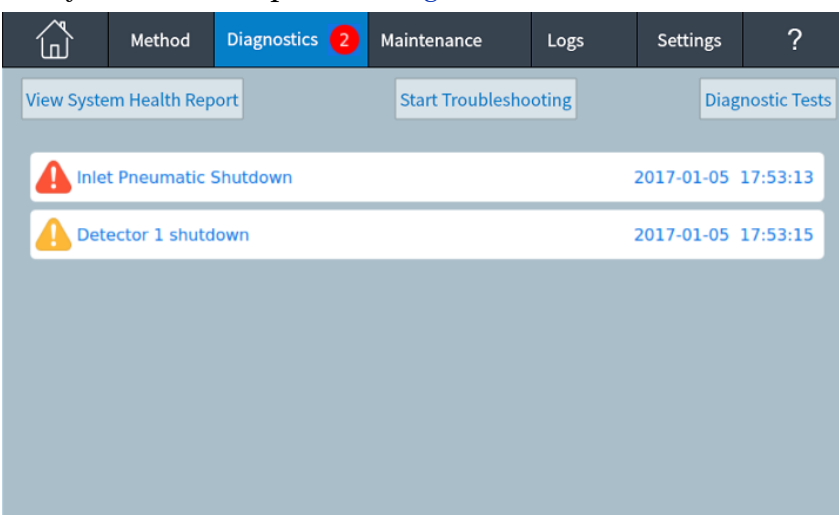

Figure 26 Diagnostics view
Additionally, the view provides a list of all current alerts and the system health report. See Figure 26.
- 1 On the touch screen, press **Diagnostics**. The Diagnostics view appears. See Figure 26. The view provides a list of all current alerts.